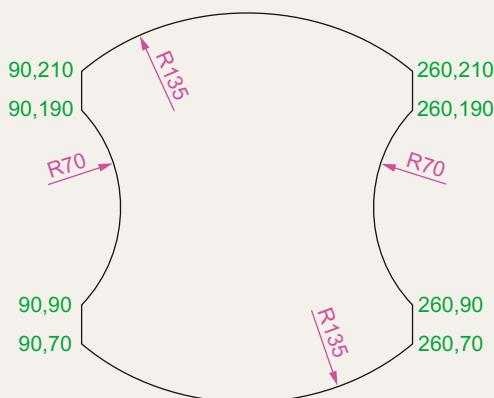

Fig. 3.45 Exercise 2
pick boxes of the left-hand drawing of Fig. 3.45
2. With the **Line** and **Arc** tools, construct the outline Fig. 3.45.